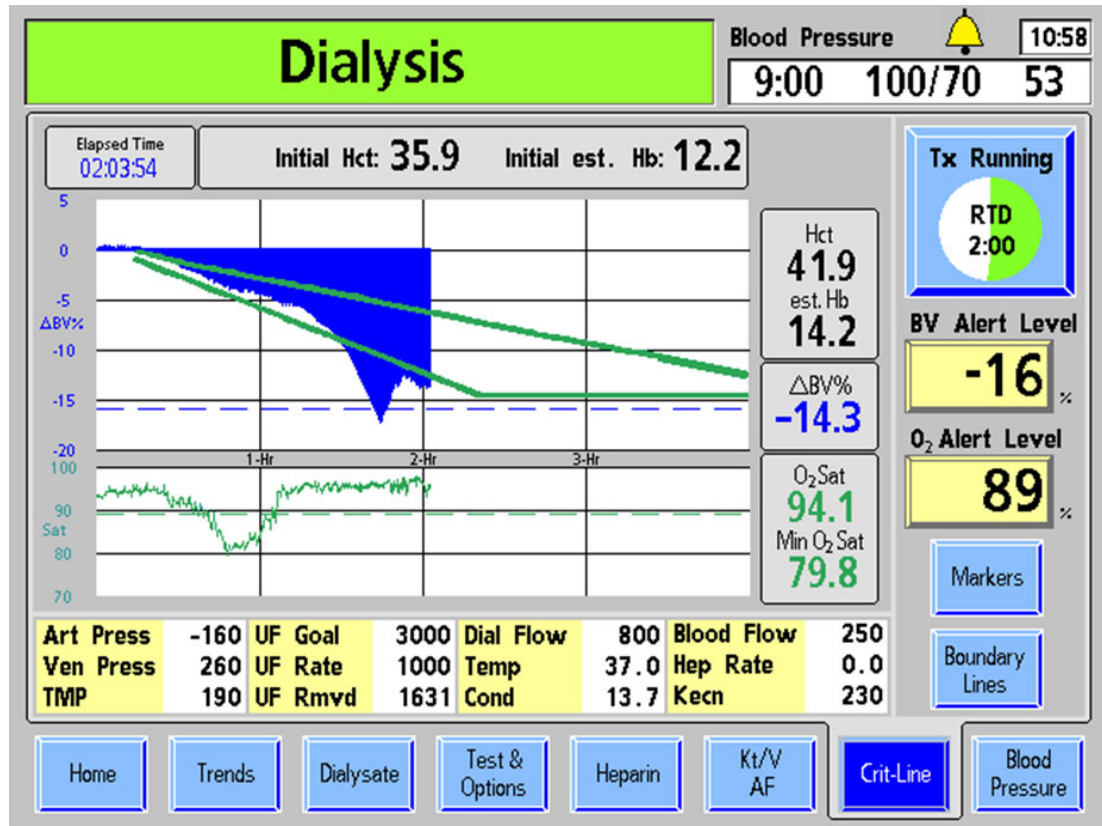

Figure 77 – Crit-Line Screen (Showing BV with Boundary Lines and O₂ Saturation) (Showing functional software version 2.74 or later)
The “Crit-Line” screen can display either Blood Volume (BV) (see Figure 77 on page 157) or Hematocrit (Hct) (see Figure 78 below) on the upper graph depending on the Service Mode setting.
<p>Boundary Lines – If enabled by pressing the Boundary Lines button, these two green lines on the BV graph show where a per hour drop of -3% and -6.5% in relative blood volume would be. The lower line does not go below a -15% drop for the entire treatment. The two lines are displayed at the beginning of treatment, but do not cover the first 15 minutes of treatment (see Figure 77). After four hours of treatment, the boundary lines disappear.</p> <p>When boundary lines are displayed, the blood volume change profile letter (A, B or C) is not shown.</p>
The BV (Blood Volume) graph (Figure 77 on page 157) is displayed as a fill graph. A line is filled from 0 to the Δ BV% value. As the dialysis treatment progresses, fluid is taken out of the blood by the 2008T hemodialysis machine's ultrafiltration pump. This will result in a greater percentage of the blood being red blood cells and the blood volume fill graph will trend downwards and approach the alert level. The BV alert level is drawn as a blue dotted line across the BV graph.
Oxygen saturation is the default display on the “Crit-Line” screen's bottom graph. The O₂ Sat (Oxygen Saturation) graph (Figure 77 on page 157) is a line graph drawn from the previous oxygen saturation value. The O₂ Alert Level is drawn as a green dotted line across the Oxygen Saturation graph.